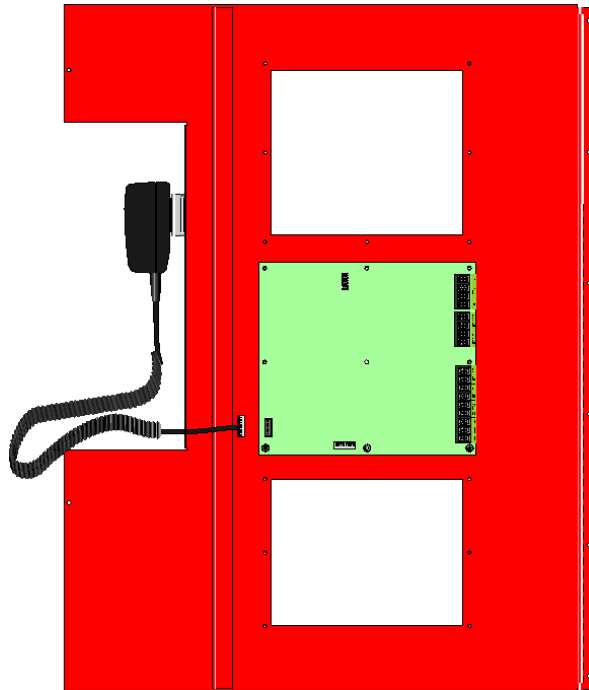

Figure 4-45 Back View of Dead Front Panel
4. Unplug the Microphone from the microphone connector. See Figure 4-45.